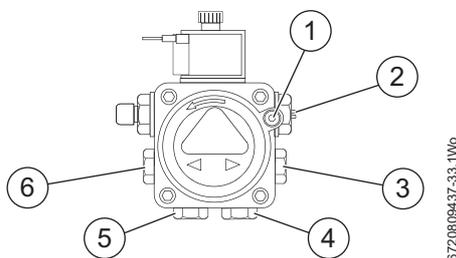
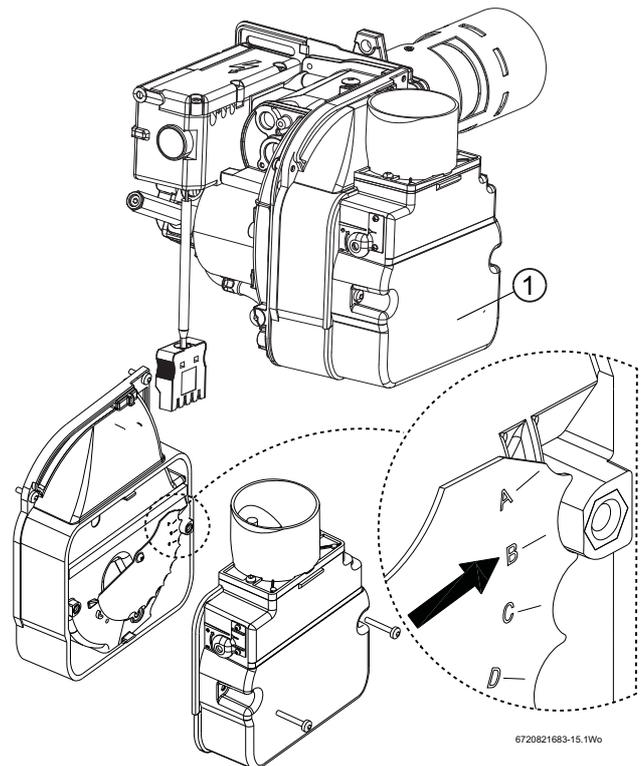

Fig. 69 Oil pump ports/connections
Fig. 70
- ▶ Adjust the air shutter [3] → figure 70 and pump pressure [2] → figure 69 to the values shown in the table 10 on page 44.
Adjust position of air damper discs to suit burner output (see table 10 on page 44), located as shown in figure 70. Access by undoing the two screws [4] to release the air inlet cover.